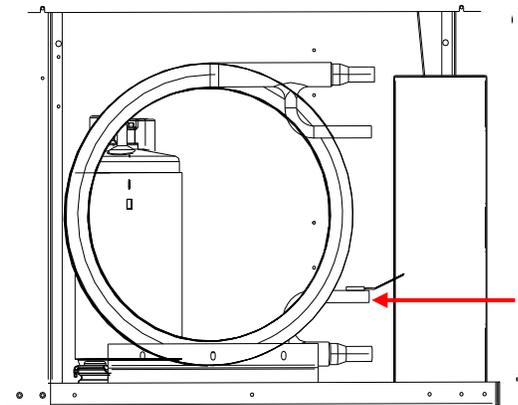

Figure 4 - Freeze sensor location
The UPM controller will constantly monitor the refrigerant temperature with the sensor mounted close to the condensing water coil between the thermal expansion valve and water coil as shown in figure 4. If temperature drops below or remains at the freeze limit trip for 30 seconds, the controller will shut the compressor down and enter into a soft lockout condition. Both the status LED and the Alarm contact will be active. The LED will flash (three (3) times) the code associated with this alarm condition.